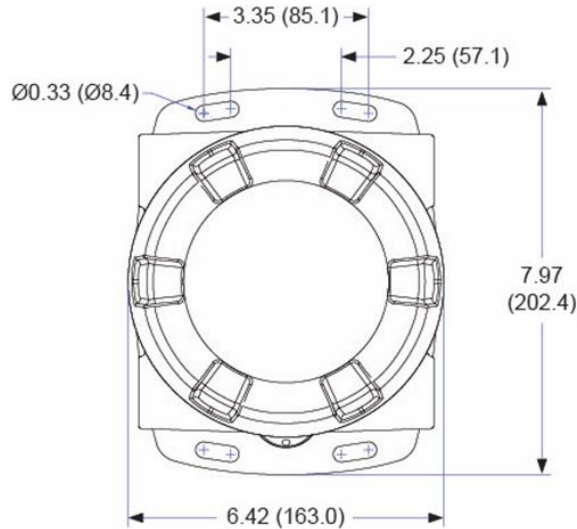
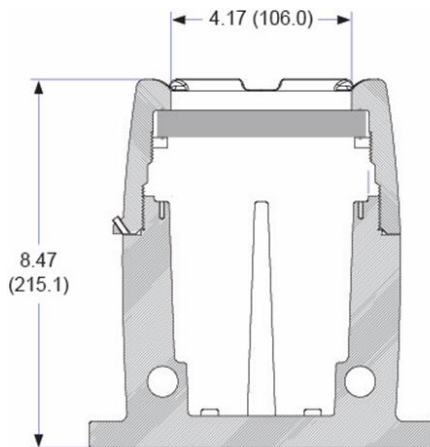

Figure 1. Enclosure Dimensions – Front View
Figure 2. Enclosure Dimensions – Side Cross Section View
The ProtEX-MAX has four slotted mounting flanges that may be used for pipe mounting or wall mounting. Refer to *Figure 1* and *Figure 2* below.
- Prepare a section of wall approximately 7" x 8.5" (178 mm x 216 mm) for meter mounting by marking with a pencil the mounting holes (shown in *Figure 1*) on the wall.
- Select the appropriate mounting screws for the mounting surface to be used. The mounting holes diameter is shown on *Figure 1*.